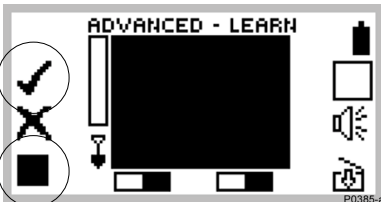

Figure 6.4 Reject all fills the screen
STEP 6 (Figure 6.4) Press the lower left hand shift button twice to change the cursor to medium size. The size of the cursor sets how 'loosely' the target is matched for each successive pass of the coil. Place the target on the ground and press the upper left shift button next to the Accept icon. The tick will begin to flash.